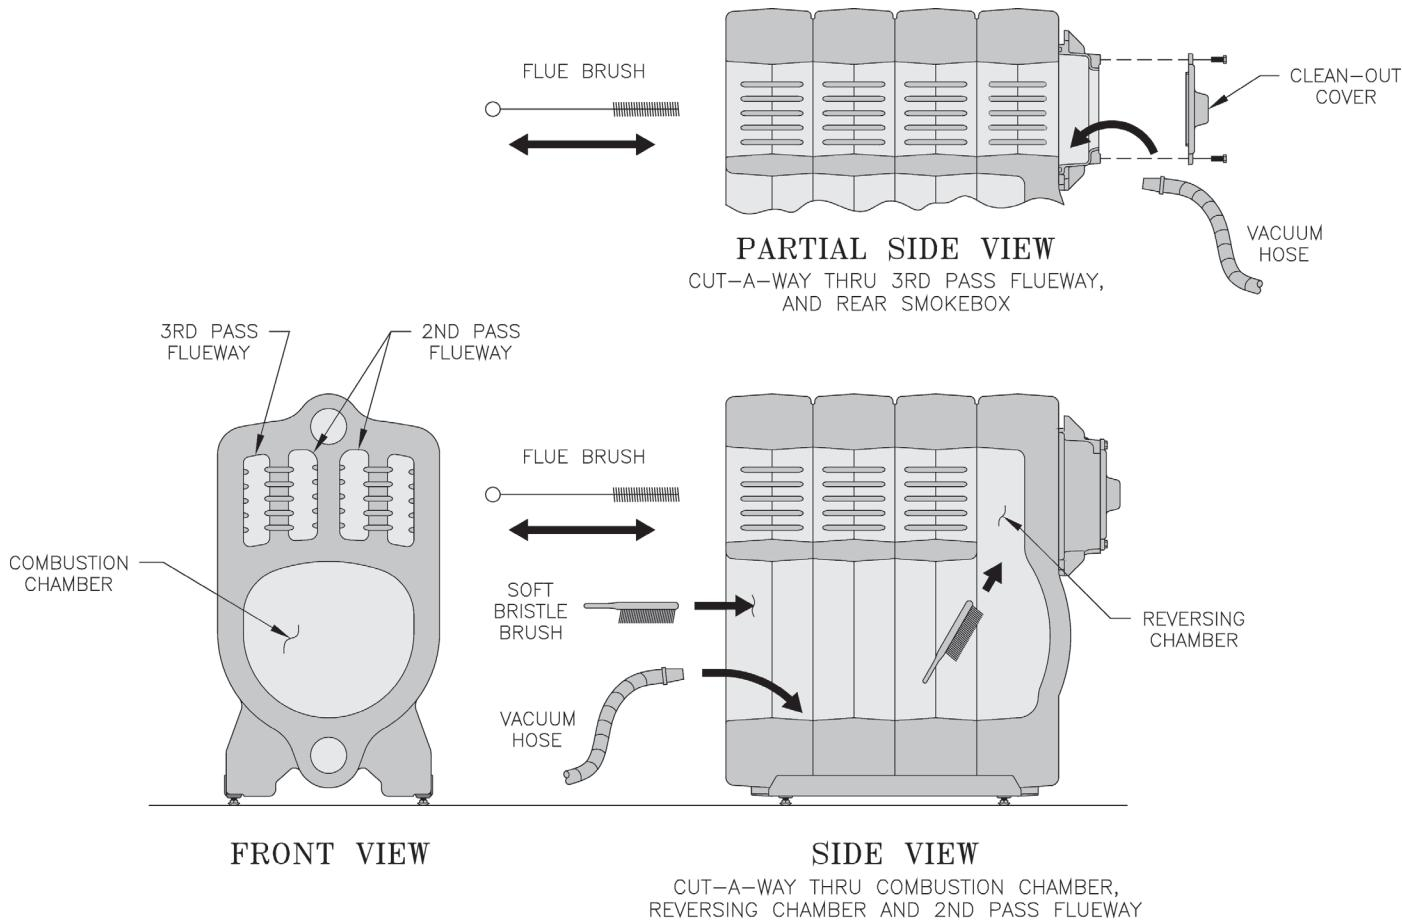

Figure 35: Cleaning of Boiler Flueways
A. **CLEAN THE FLUEWAYS** (See Figure 35).
1. For access to the combustion chamber remove the two (2) 3/8" - 16 cap screws. If boiler is equipped with flexible fuel line(s), swing door open.